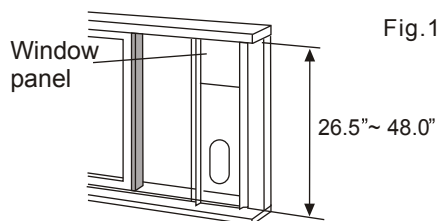

Fig.15
2. Attach the window slider kit to the window sill. Adjust the length of the window slider kit according to the width of window, shorten the adjustable window kit if the width of window is less than 26.5 inches. Open the window sash and place the window slider kit on the window sill. See Fig.15.